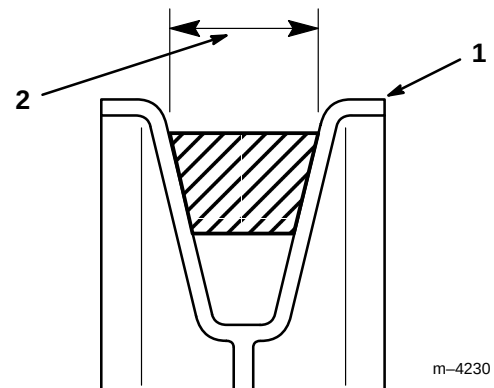

Figure 12
7. Make certain that the wide side of the PTO drive belt is toward the outside diameter of **all (four) pulleys** (Fig. 12).